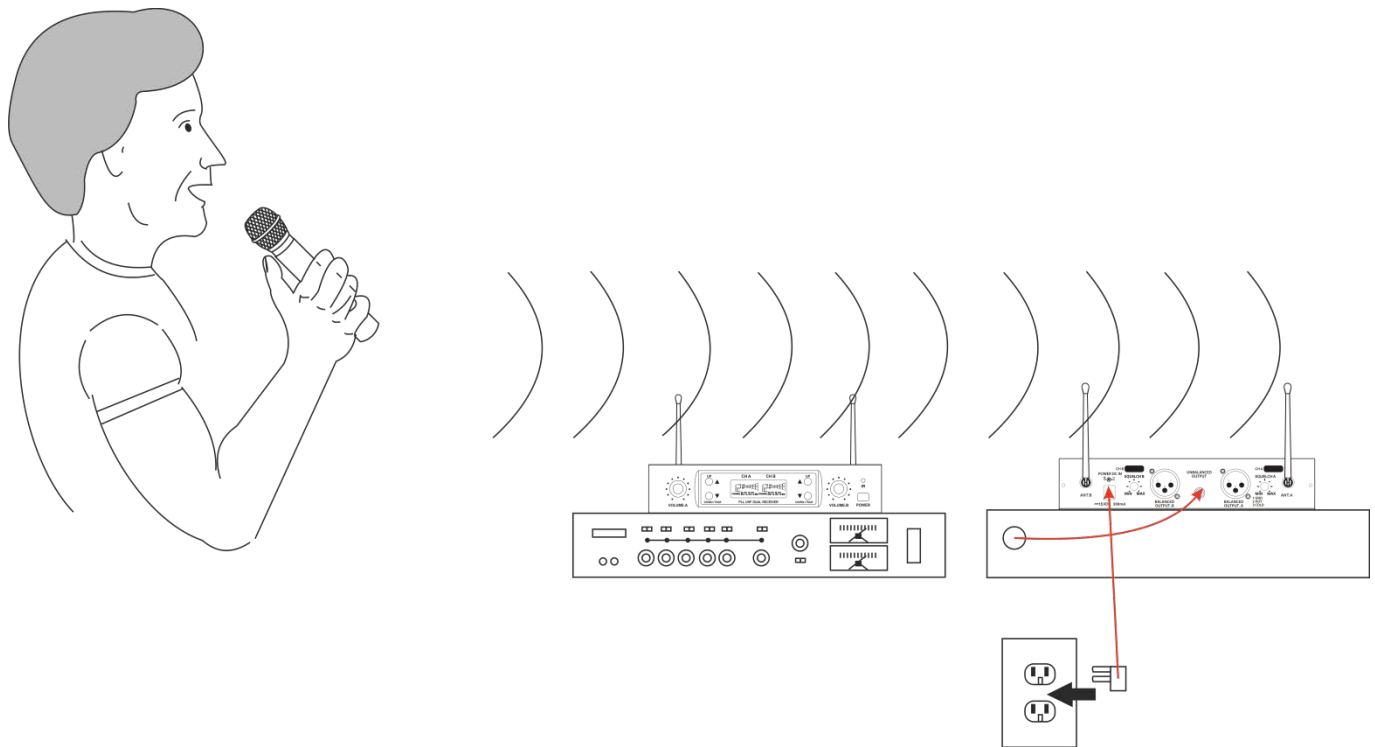

Fig. 04
- 01) Refer to Fig. 04. Connect the supplied power DC adapter into the **DC input Connector (08)** at the back of the COM-42. Plug the adapter into a wall socket or other power source.
- 02) Press and hold down the **Power switch (05)** on the front of the COM-42 for 4 seconds. The device is now switched ON.
- 04) Connect the COM-42's **XLR audio OUT (10, 12)** to the mixer input using an XLR to XLR audio cable or connect the COM-42's **¼" jack audio connector OUT (11)** to your amplifier's input using a ¼" phone plug cable.
- 05) Press and hold down the **Power/mute switch (16)** to switch the microphone ON.
- 06) Press the **UP/DOWN** buttons on the **display (02)** to choose the available channel. The adjustment range is between 00-99. If you press and hold down the **UP/DOWN** buttons for 8 seconds, you will skip to the previous/next channels without having to press the button each time.
- 09) Talk or sing into the microphone. The AF bar on the **display (02)** will increase and decrease as you keep talking/singing.
- 11) If the performance is over, turn off the sound system and slide the microphone's **Power/mute switch (16)** to the OFF position to save battery power.